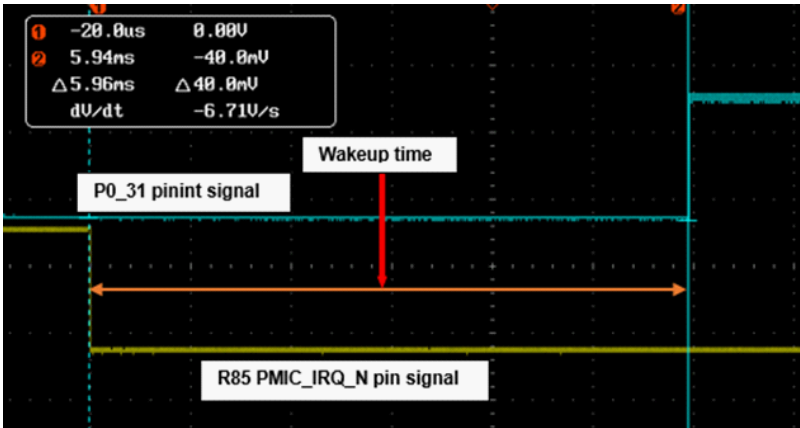
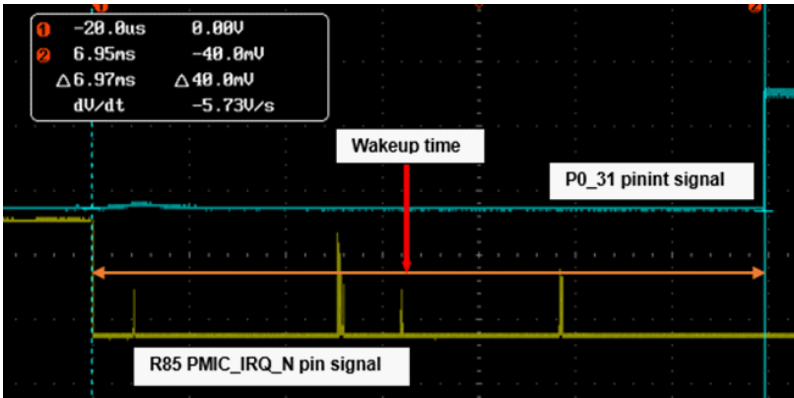

Figure 10. Wake-up time measurements for deep power-down using PMIC\_IRQ\_N pin
Figure 11. Wake-up time measurements for full deep power-down using PMIC\_IRQ\_N pin
- For wake-up time from deep power-down and full deep power-down modes, measure time passed on the oscilloscope between the PMIC\_IRQ\_N pin going low to P0\_31 pin going high as shown in Figure 10 and Figure 11.